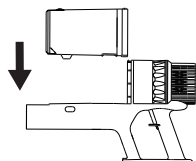

Figure 18
6. After cleaning the filter, reattach the cyclone body and cotton filter to the dust container. Push the dust container into the motor body until you hear a 'Click'. The dust container will be fixed to the motor body **Figure 18**.